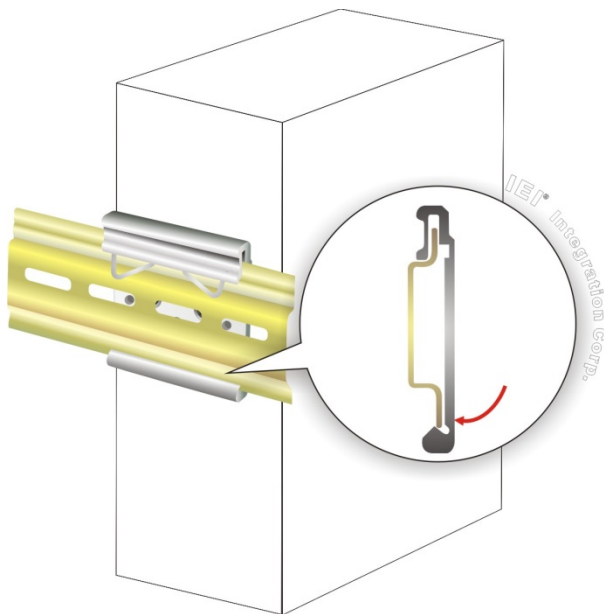

Figure 3-23: Mounting the System
Step 3: Push the system toward the DIN rail until the mounting bracket clips into place firmly (**Figure 3-23**).